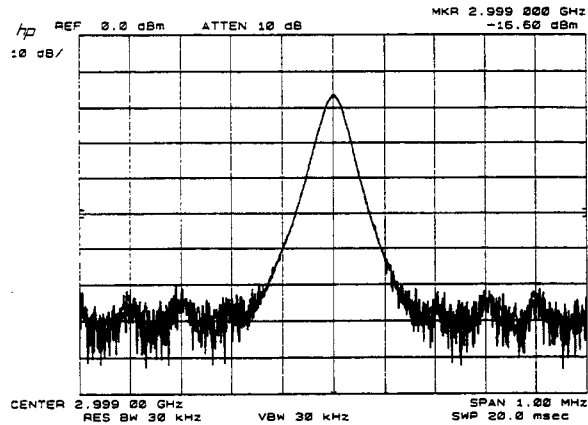

Figure 23. High Quality Comb Tooth at 3 GHz
2. If the analyzer malfunction relates to a particular frequency or range, look more closely at the comb tooth there. Adjust the spectrum analyzer span and bandwidth as required. Even at 3 GHz, the comb should look as clean as Figure 23.
4. If the signal is not as clean as Figure 23, observe the HI OUT input signal to the A7 assembly.